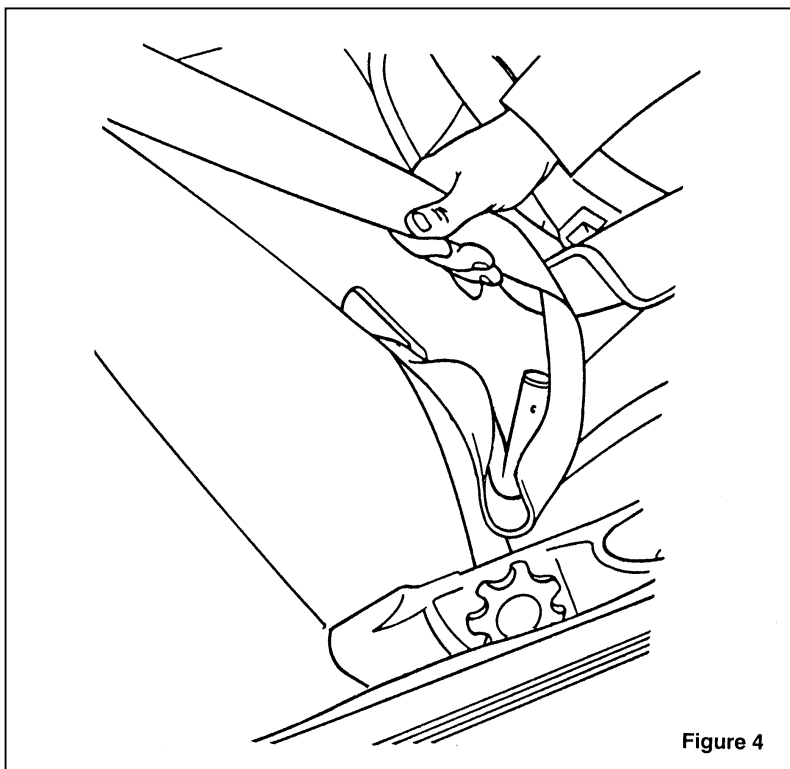

Figure 4
4. Grasp the shoulder portion of the belt and pull downward until all of the belt is extracted from the reel and a click is heard. At this time the retractor is in the automatic locking mode (child restraint mode). See Figure 4.